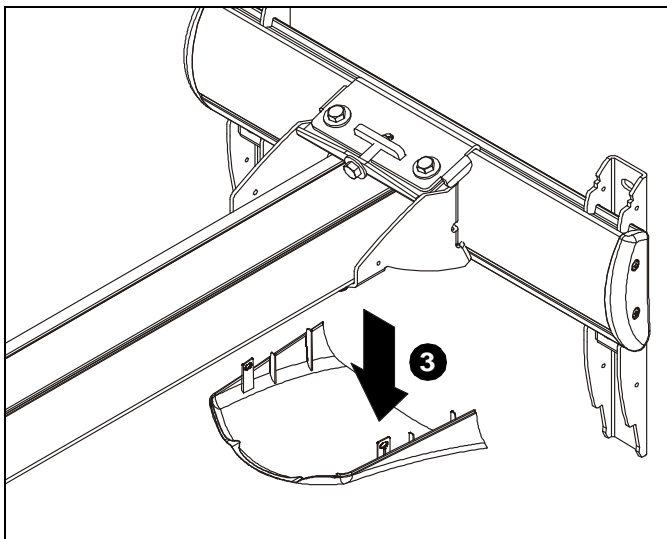

Figure 53
3. Remove lower cover from mount. (See Figure 53)